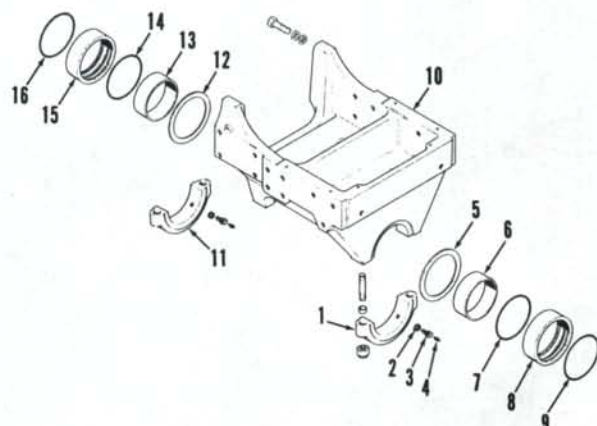

Fig. 8—Front support and component parts used on Models 2094 and 2294 equipped with Carraro front drive axle.
9. REMOVE AND REINSTALL. To remove the front drive axle assembly, place transmission in PARK and securely block rear wheels. Unbolt and remove drive shaft shield and the front drive shaft assembly. Disconnect steering cylinder lines and cap or plug all openings. Loosen front wheel to hub nuts on both wheels. Install a side frame jack CAS-10500-1 or equivalent on each side of tractor. Raise front of tractor until wheels are off the ground. Remove wheel nuts and using a hoist, remove front wheels. Place a floor jack or special axle carrier CAS-10500-4 under front axle. Remove bearing lock (3—Fig. 8) and grease fitting (4) from bearing support caps (1 and 11), then unbolt and remove caps. Lower axle (floor jack) or raise tractor (axle carrier) and roll assembly forward from tractor. Remove bushings (8 and 15) with "O" rings (7, 9, 14 and 16), sleeves (6 and 13) and thrust washers (5 and 12).
To remove front support (10—Fig. 8), disconnect headlight wiring, then remove hood, grille and side panels. Remove radiator as outlined in paragraph 90. Attach a hoist to front support, then unbolt and remove.
Inspect thrust washers (5 and 12—Fig. 8), sleeves (6 and 13) and bushings (8 and 15) for excessive wear or other damage and renew as necessary. Install